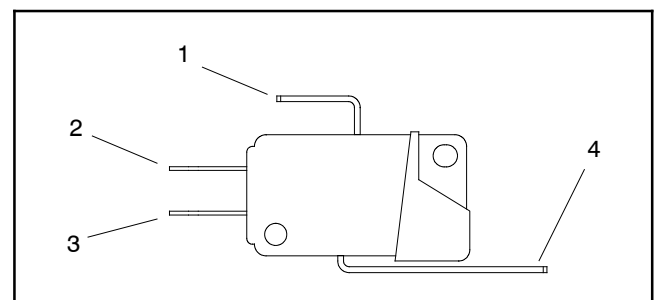

Figure 26
4. Connect a multimeter (ohms setting) across the common and normally closed (NC) terminals of the brake switch (Fig. 26).
5. With the parking brake released (not applied), the washer on the parking brake lever should be depressing the lever on the brake switch. In this switch position, there **should not be continuity** (infinite ohms) between the common and normally closed (NC) switch terminals.